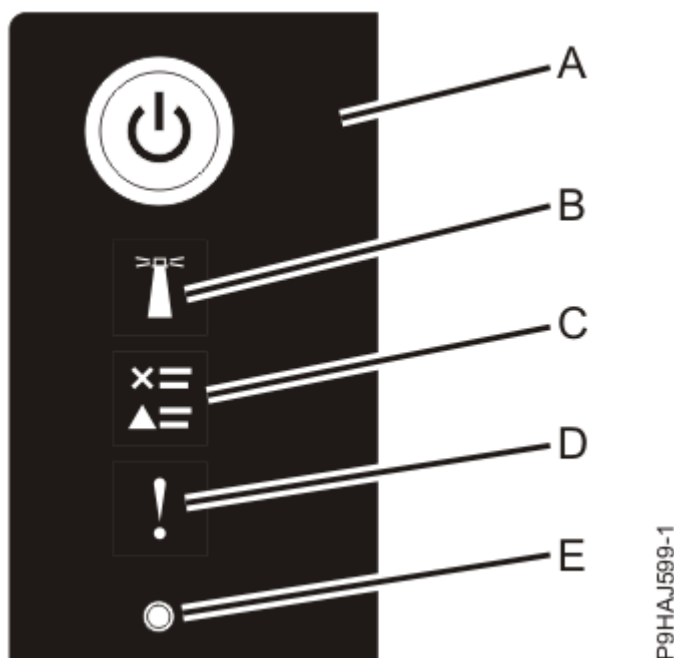

Figure 28. Control panel LEDs
3. Press the power button **(A)** on the control panel, as shown in Figure 28 on page 33.